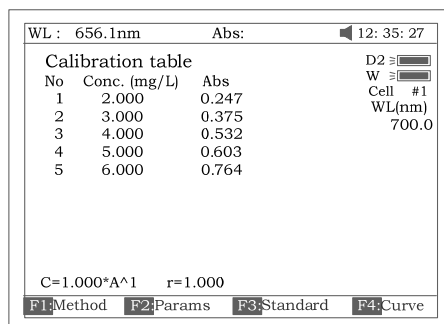

Fig 33
3.3.3 Pull the first sample cuvette of known concentration into the light path, Press the key [**START**] to get values of standard curve one by one (Fig 33).
- a) Standard curve built up and saved in the instrument. In Fig 33 press [Load] and then press [^] or [^] to select the file with type *****.fit**. At last press [ENTER] to confirm.